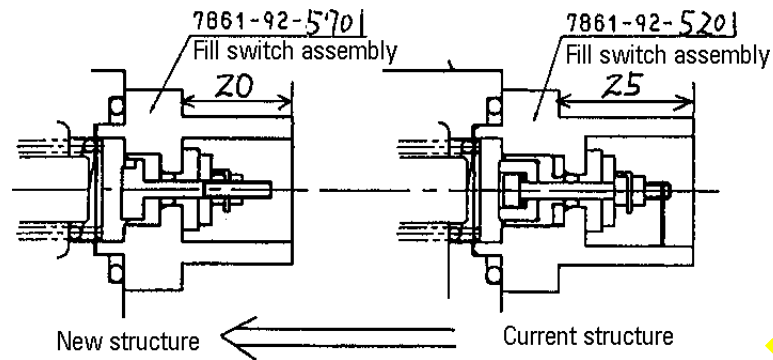

Fig. 1-3
- 2) Changes of the ECMV assembly except for the low clutch (See Fig.1-3).